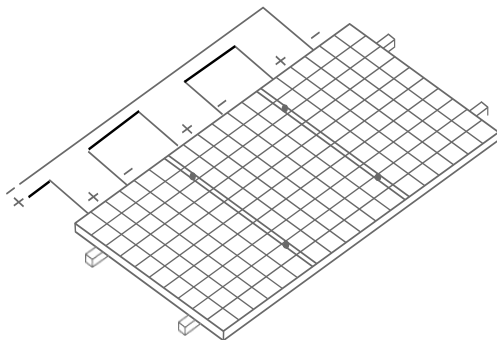

Figure 17 Connection in series
- It is not allowed to use different models of modules in the same solar PV system. When modules are connected in series, the voltage of every string shall not be higher than the maximum voltage of the system (as shown in Figure 17). Please refer to the national, regional or local specifications for details.